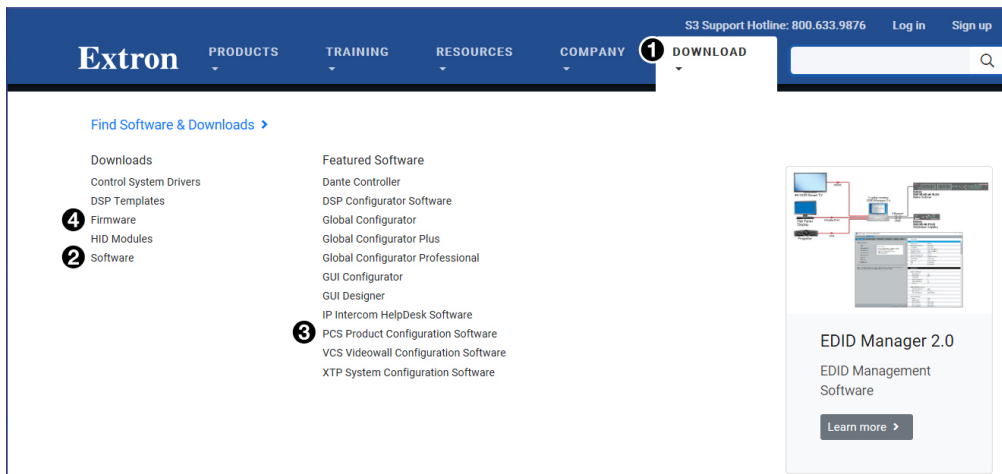

Figure 5. Software and Firmware Links on the Download Tab
2. Go to the **Download** link at the top of the page (figure 5, ❶) and click the appropriate link on the drop-down list.